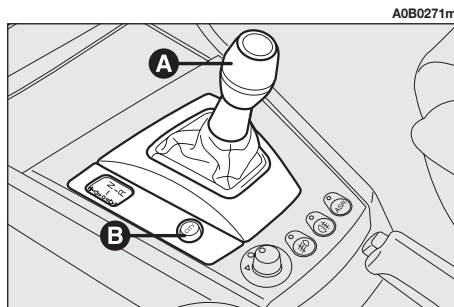

fig. 130
- the control lever on the centre console (**A-fig. 130**);
The **MANUAL** operating mode is set when, with the **CITY** mode selected, the **CITY** button (**B-fig. 130**) is pressed again, excluding the previously selected mode.